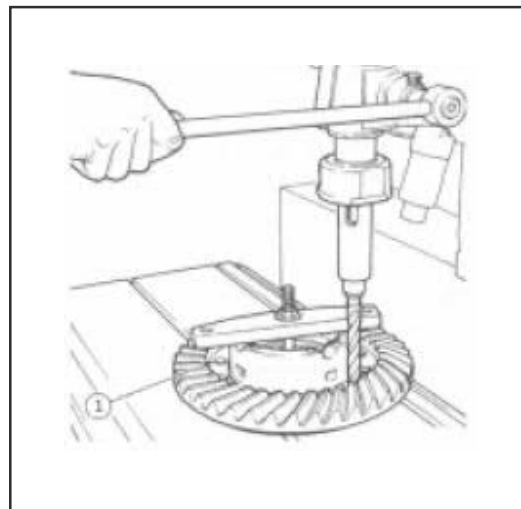

Fig. 5
7. Using a 13 -14 mm drill, drill out each of the rivet heads until they become detached from their shanks. (Item 1 in Fig. 5). (Ensure that the holes in diff. case left-hand are not getting elongated during the process of drilling out the rivets).